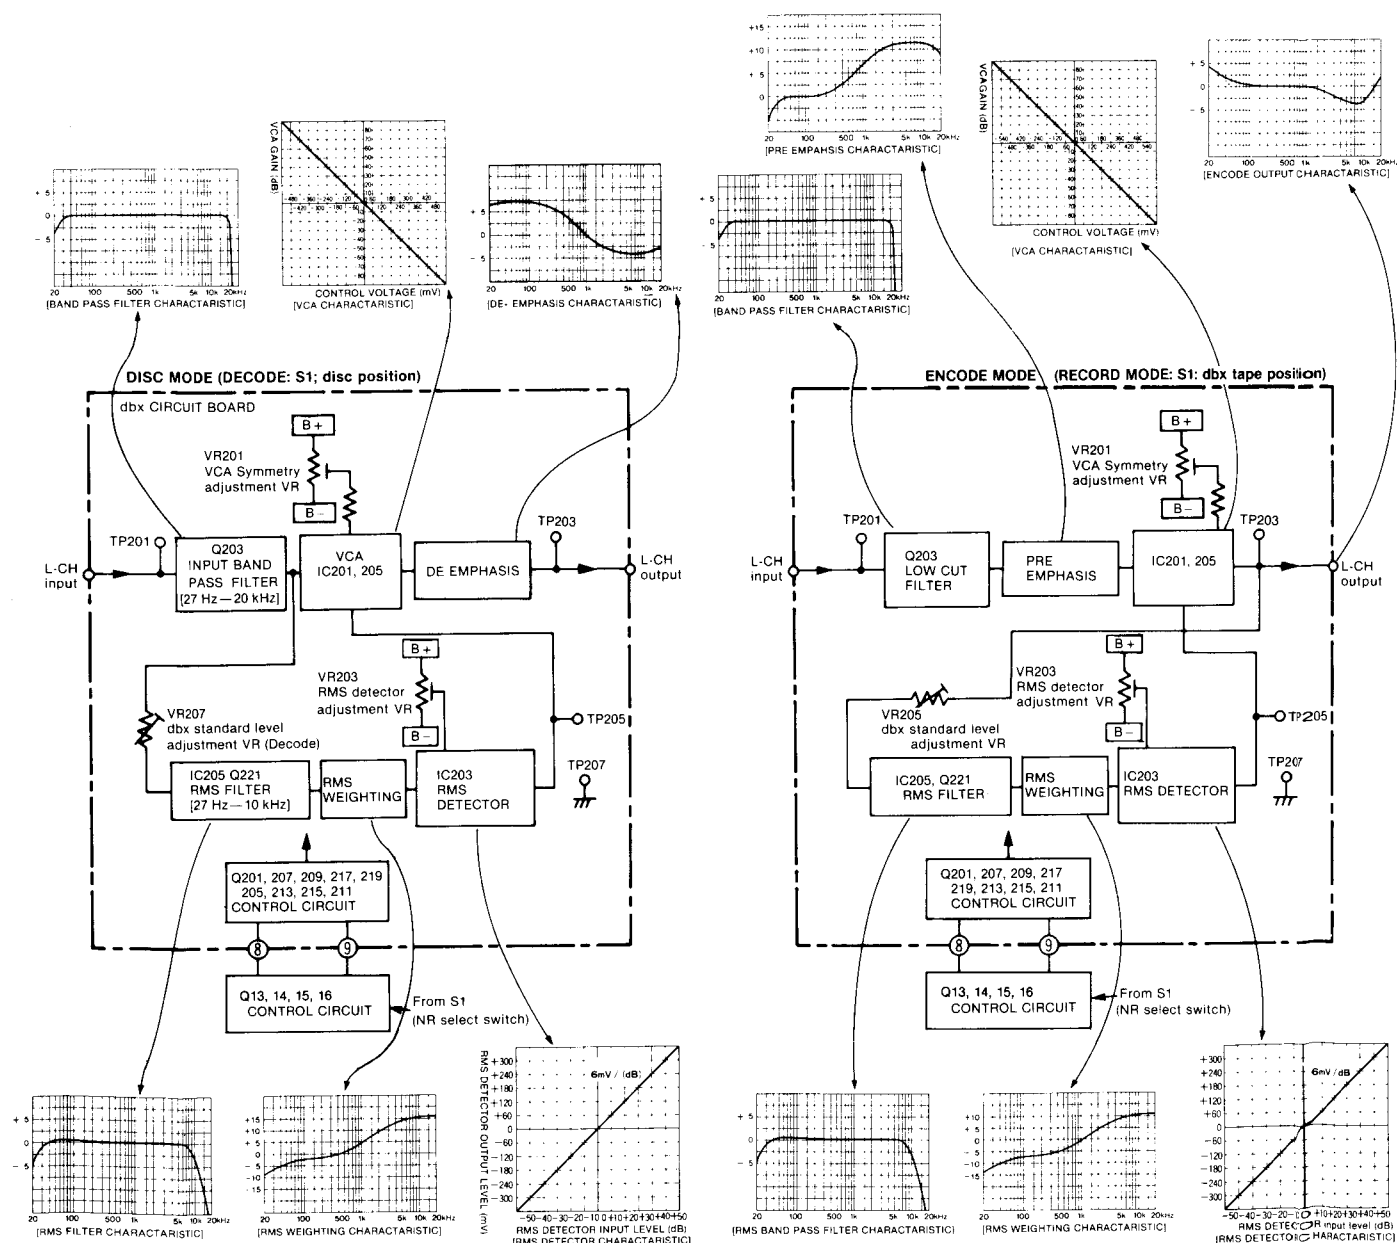

Fig. 3
B Head azimuth adjustment Condition: • Playback mode	L-CH/R-CH output balance adjustment 1. Make connections as shown in fig. 3.  Fig. 3
Equipment: • VTVM • Oscilloscope • Test tape (azimuth) ... QZZCFM	2. Playback the 8kHz signal from the test tape (QZZCFM). Adjust screw (B) in fig. 4 for maximum output L-CH and R-CH levels. When the output levels of L-CH and R-CH are not at maximum at the same time, readjust as follows. 3. Turn the screw shown in fig. 4 to find angles A and C (points where peak output levels for left and right channels are obtained). Then, locate the angle B between angles A and C, i.e., a point where L-CH and R-CH output levels come together at maximum. (Refer to figs. 4 and 5.) L-CH/R-CH phase adjustment 4. Make connections as shown in fig. 6. 5. Playback the 8kHz signal from the test tape (QZZCFM). Adjust screw (B) shown in fig. 3 so that pointers of the two VTVMs swing to maximum and a waveform as illustrated in fig. 6 is obtained on the oscilloscope.  Fig. 4  Fig. 5  Fig. 6  Fig. 7
D Playback frequency response Condition: • Playback mode • Normal tape mode • Output level control ... MAX Equipment: • VTVM • Oscilloscope • Test tape ... QZZCFM	Measurement 1. Test equipment connection is shown in fig. 3. 2. Place UNIT into playback mode. 3. Playback the frequency response test tape (QZZCFM). 4. Measure output level at 315Hz, 125kHz, 8kHz, 4kHz, 1kHz, 250Hz, 125Hz and 63Hz and compare each output level with the standard frequency 315Hz, at LINE OUT.  Fig. 9
Ⓔ Playback gain Condition: • Playback mode • Normal tape mode Equipment: • VTVM • Oscilloscope • Test tape ... QZZCFM	1. Test equipment connection is shown in fig. 3. 2. Playback standard recording level portion on test tape (QZZCFM 315Hz, 0dB), and using VTVM measure the output level at LINE OUT jack. 3. Make measurement for both channels. Standard value: 0.4 V ± 1 dB (around 0.42 V: at test points TP3 (L-CH) and TP4 (R-CH)) Adjustment 1. If measured value is not within standard, adjust VR1 (L-CH), VR2 (R-CH) (shown in fig. 1). 2. After adjustment, check "Playback frequency response" again.